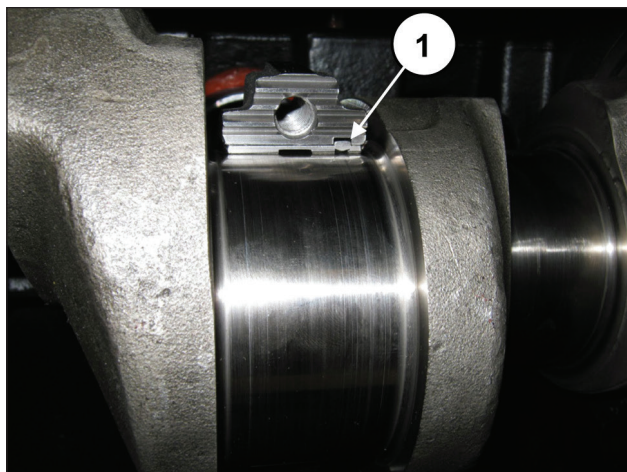

Fig. 68
For proper assembly of the half-bearings, ensure that the reference tab on the half-bearings are positioned in their housing on the half support (pos. ①, Fig. 68).